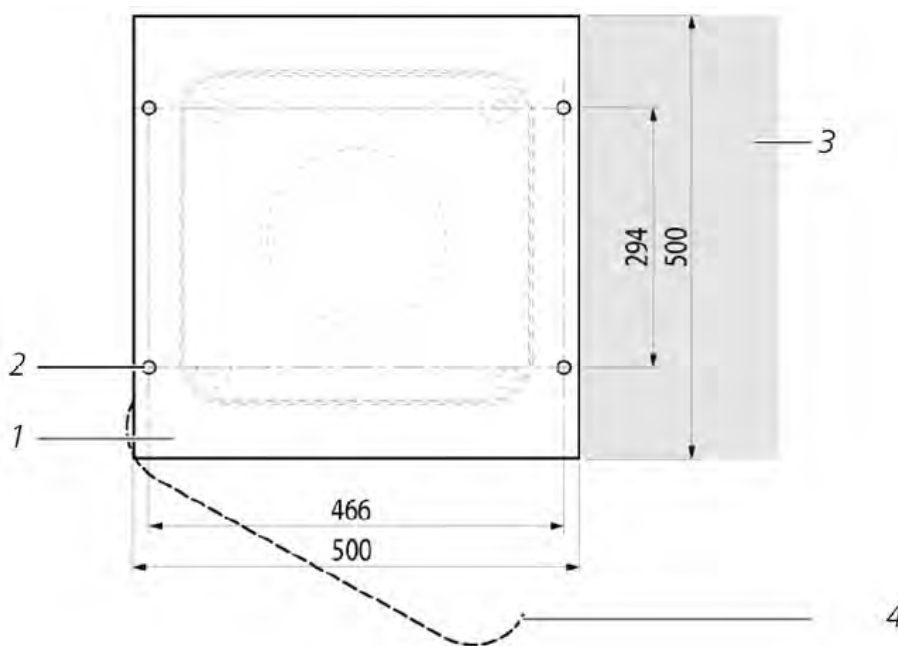

Figure 5 Drilling template.
- ⇒ The CHM 15k may only be loaded and transported in the packed condition and in the transport position (see Figure 5).